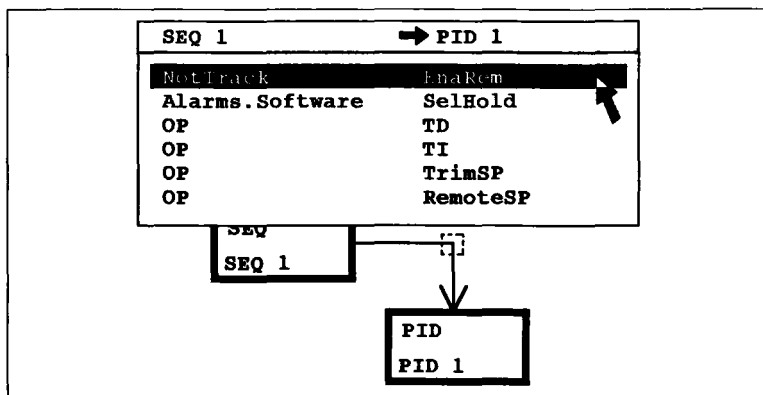

Figure 3.4 Example Pop-Up Connections Menu
**Querying Wiring & Blocks.** During control configuration, the QUERY (??) softkey lets you see information about a function block, compound, or wire. Specifically, querying a wire symbol shows a source/destination list of all the connections in the selected wire or 'bus'. Figure 3.4 shows an example *connections menu* for a 6-wire bus from a SEQ block to a PID block. (Querying blocks is outlined in the section *Parameterising Blocks*, below.)